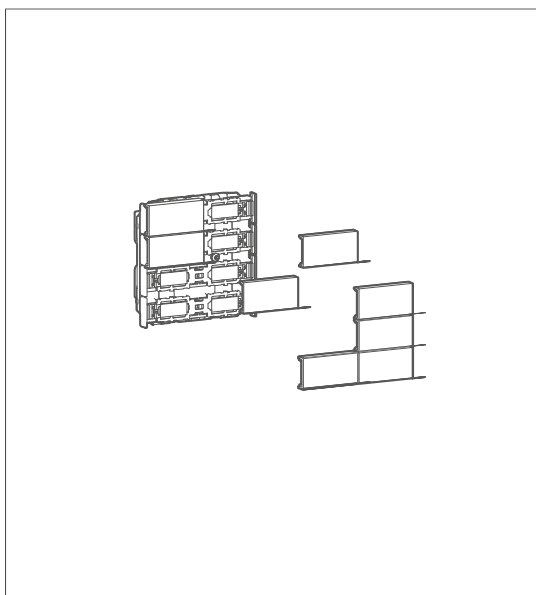

Fig. 11: Attaching the buttons
- Attach the buttons onto the push-button module (Fig. 11).